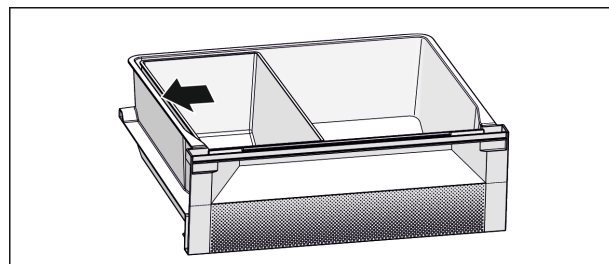

Fig. 7
- ▶ For an optimum cooling function: Position Fish & Seafood tray according to illustration (see Fig. 7) .